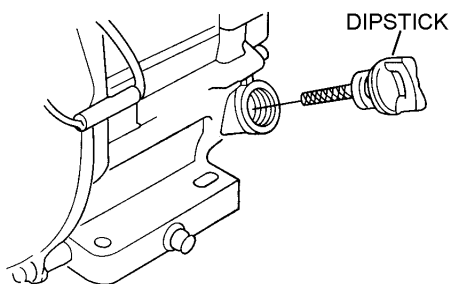

Figure 6. Engine Oil Dipstick (Removal)
2. Remove the filler dipstick from the engine oil filler hole (See Figure 6) and wipe clean.